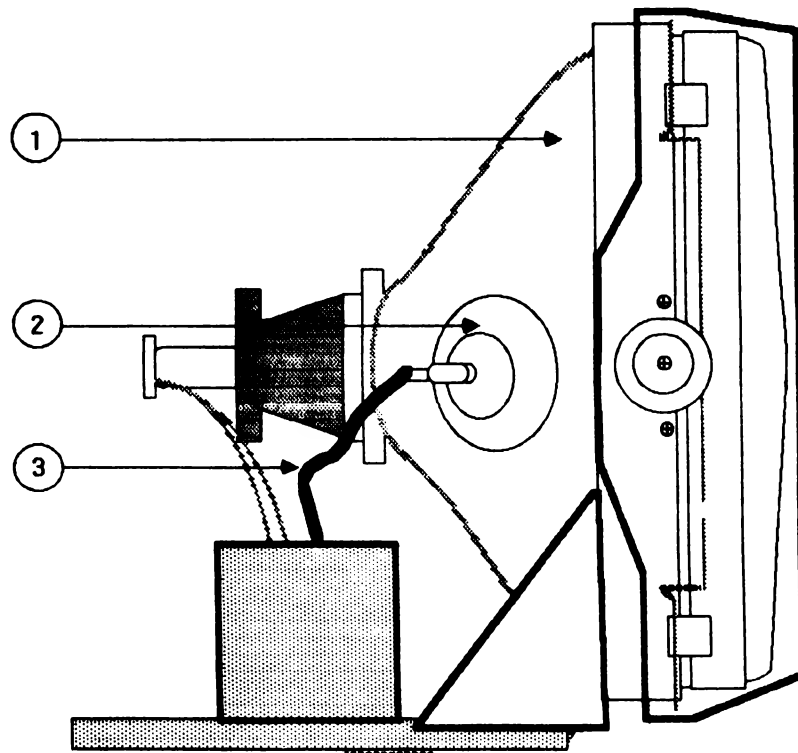

FIGURE 2
**CAUTION:** THERE ARE EXTREMELY HIGH VOLTAGES ON THE TUBE, THE ANODE, AND THE ANODE LEAD. IN THESE ADJUSTMENTS YOU WILL BE PUTTING YOUR HAND NEAR THESE VOLTAGES. YOU MUST WATCH WHAT YOU ARE TOUCHING OR ADJUSTING ON THE YOKE ASSEMBLY OR INJURY CAN RESULT. AVOID TOUCHING THE TUBE, ANODE, AND ANODE LEAD (SEE FIGURE 2, #1, 2, AND 3). NEVER HOLD ON TO THE CHASSIS WITH YOUR OTHER HAND WHILE MAKING THESE ADJUSTMENTS. PUT YOUR OTHER HAND IN YOUR POCKET OR BEHIND YOUR BACK WHILE MAKING THESE ADJUSTMENTS.